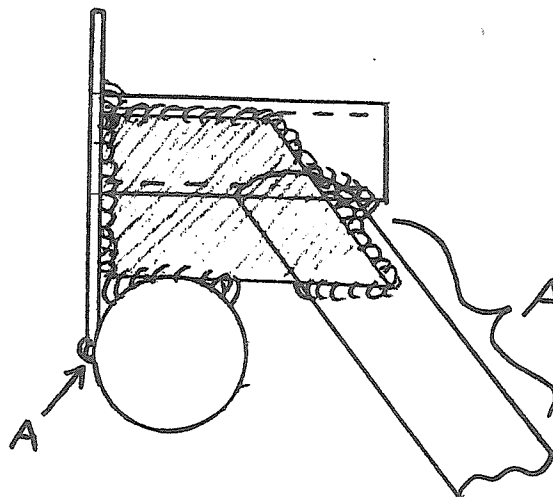
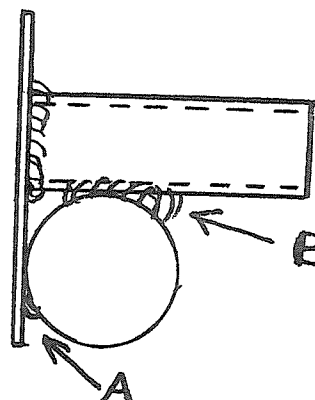
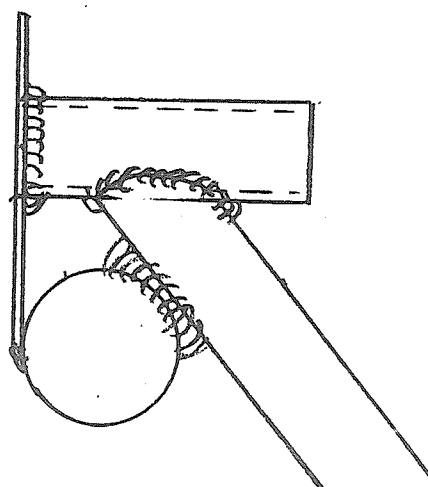

FIG. 1
FIG. 2
FIG. 3
On a structure currently being built, make and install the attach points as shown in fig. 2 & 3. Notice in figure 3 that the short diagonal has been lowered so that it can also be welded to the cross tube, and that in figure 2 the bushing is welded to the short cross tube. If the structure is already complete, then the welding should be accomplished (if not already done) as shown in figure 2 (B), and a reinforcing gusset of .065 4130 steel sheet should be made and welded in place as indicated in figure 1. If the aircraft has been flying then an inspection should be made of the areas, especially those areas as indicated in figures 1 and 2 denoted as "A".